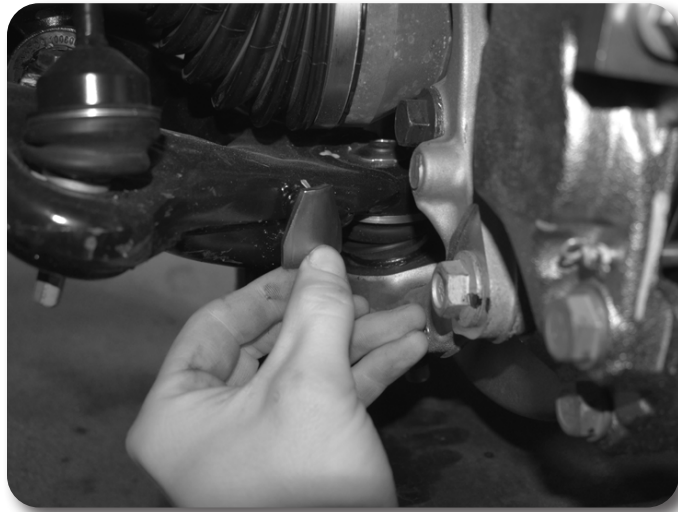

Figure 21
32. **Optional:** Weld steering stop on to lower control arm as shown. **Figure 21**